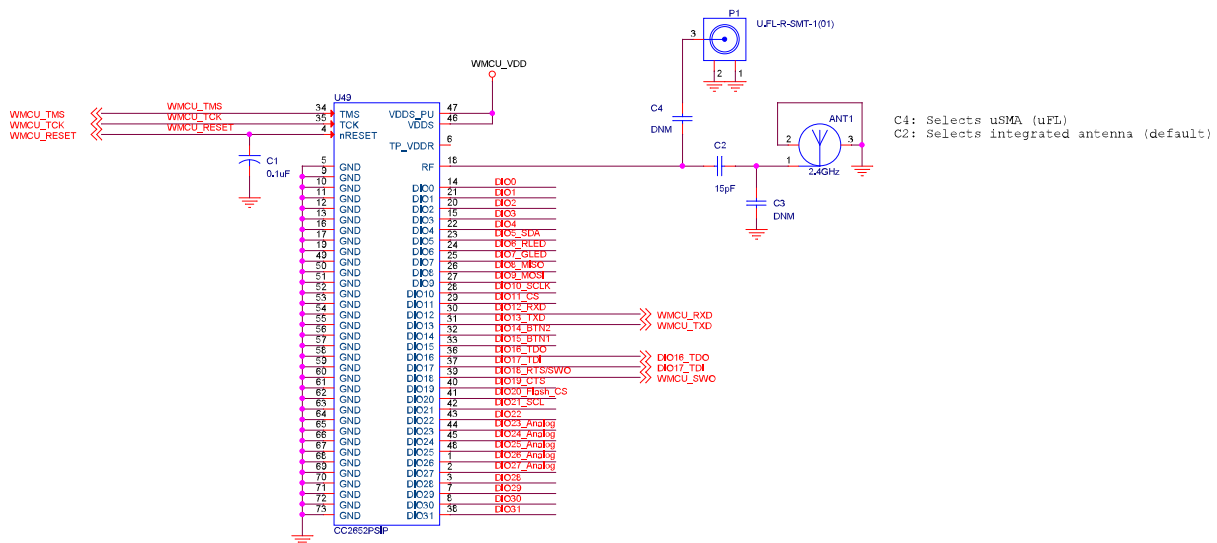

Figure 10-1. CC2652PSIP Typical Application Schematic
Figure 10-1 shows the typical application schematic using the CC2652PSIP module. For the full reference schematic, download the LP-CC2652PSIP Design Files.
Table 10-1 provides the bill of materials for a typical application using the CC2652PSIP module in Figure 10-1.
In order to meet the module power-on-reset requirements, an external 0.1 μ F capacitor is required on the nRESET pin during power ON. In addition, VDDS (Pin 46) and VDDS_PU (Pin 47) should be connected together. If the reset signal is not based upon a power-on-reset and is derived from an external MCU, then the external capacitor will not be needed and VDDS_PU (Pin 47) should be No Connect (NC). Please refer to Figure 10-1 for the recommended circuit implementation and Table 10-1 for the recommended 0.1 μ F capacitor.